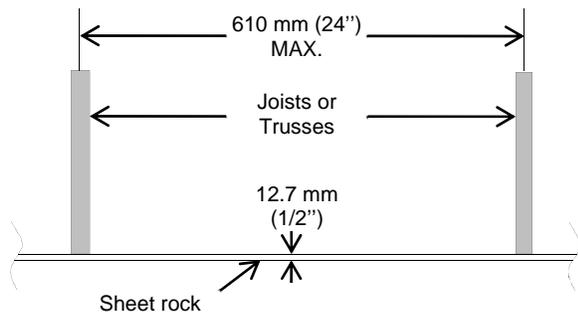

Figure 1
- Must have a maximum of 24" / 610 mm between the trusses or joists in the ceiling (see *Figure 1*).